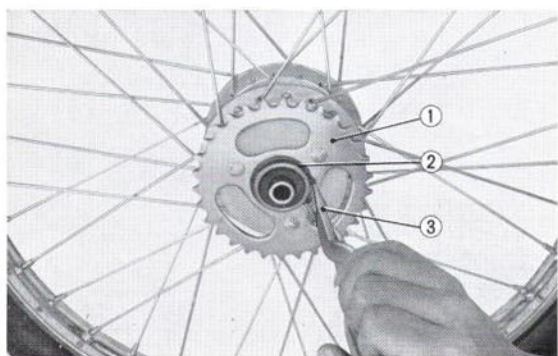

Fig. 4.29
6. The final driven sprocket can be removed by removing the 38mm circlip. **(Fig. 4.29)**